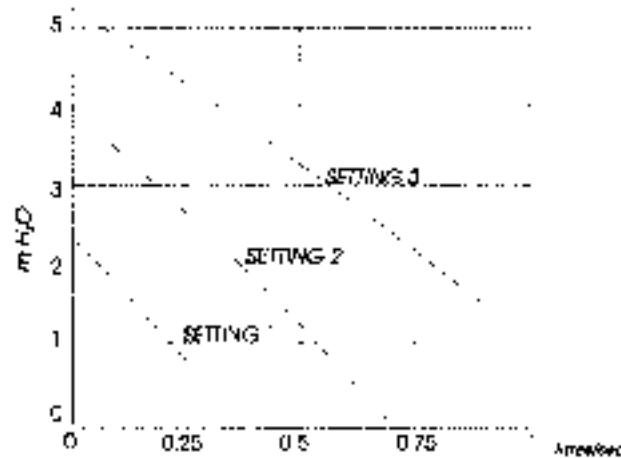

Figure 2.3 Performance Characteristics of Grundfos LFP 16-50 Pump
- The boiler/system pump should be set at the speed at which the temperature difference across the boiler is not greater than 11°C i.e. the nominal design parameters. The performance of the pump is shown in Figures 2.3 and 2.3a.